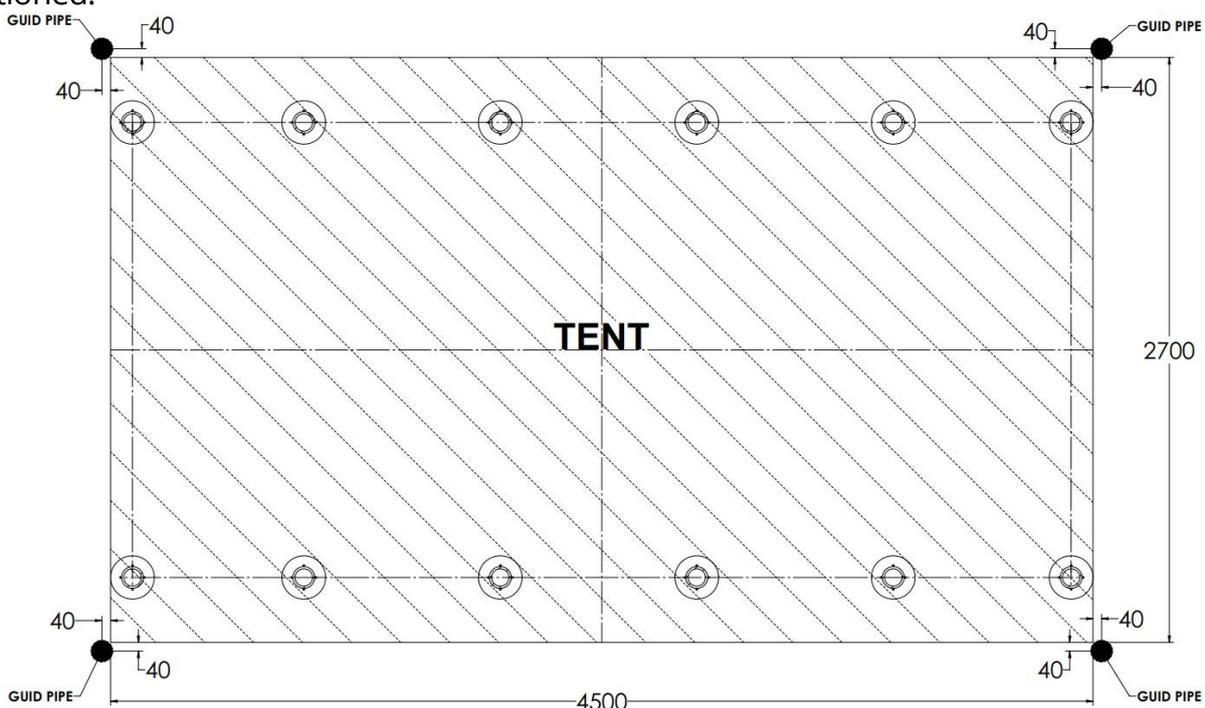

Figure 13: Position of guide pipes relative to tent footprint
1. Install four M743 guide pipes at the marked corner locations (Figure 13). Each pipe must penetrate the ground by a minimum of 300 mm to ensure stability.